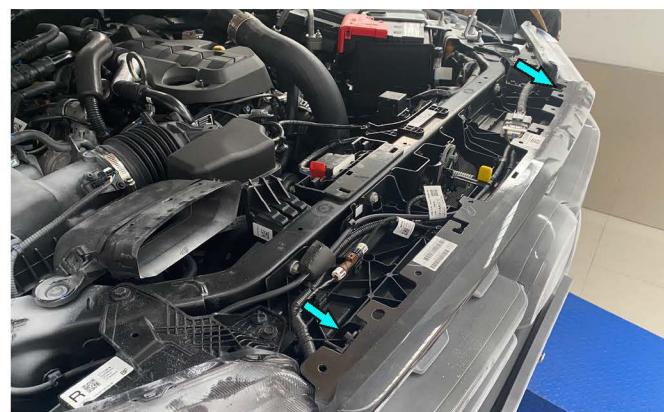

Fig.4
4. Unscrew OE bolts and remove radiator grille (fig.4.)